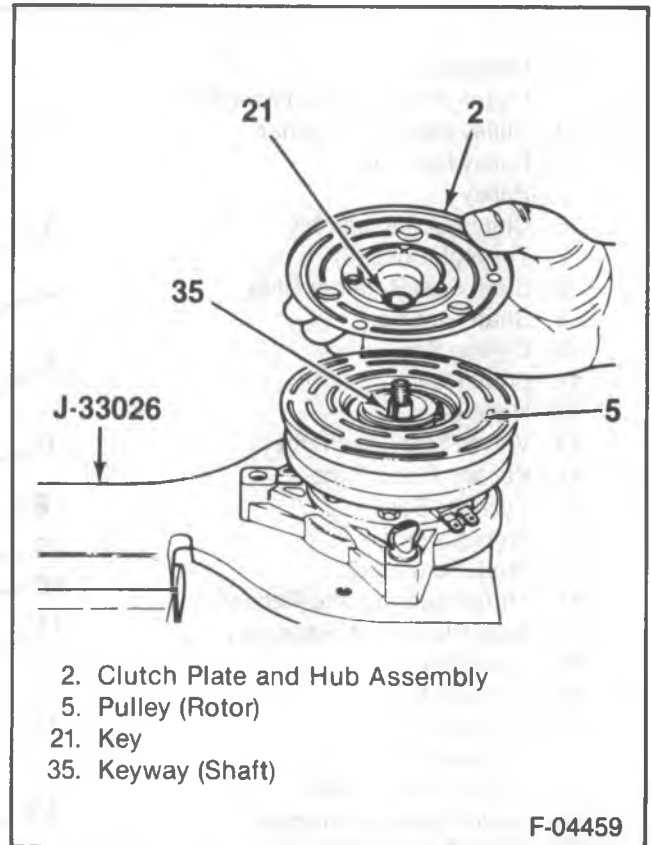

Figure 7 — Positioning the Shaft Key, Clutch Plate, and Hub Assembly
1. Shaft key (1).
- Allow the shaft key (21) to extend 3.2 mm (1/8-inch) out of the bottom of the hub keyway (figure 7).